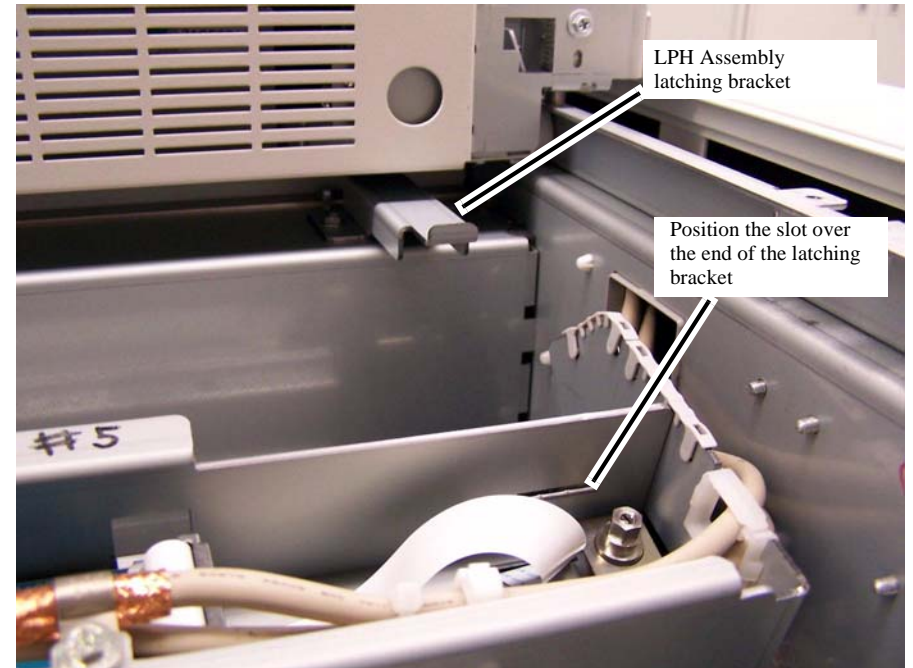
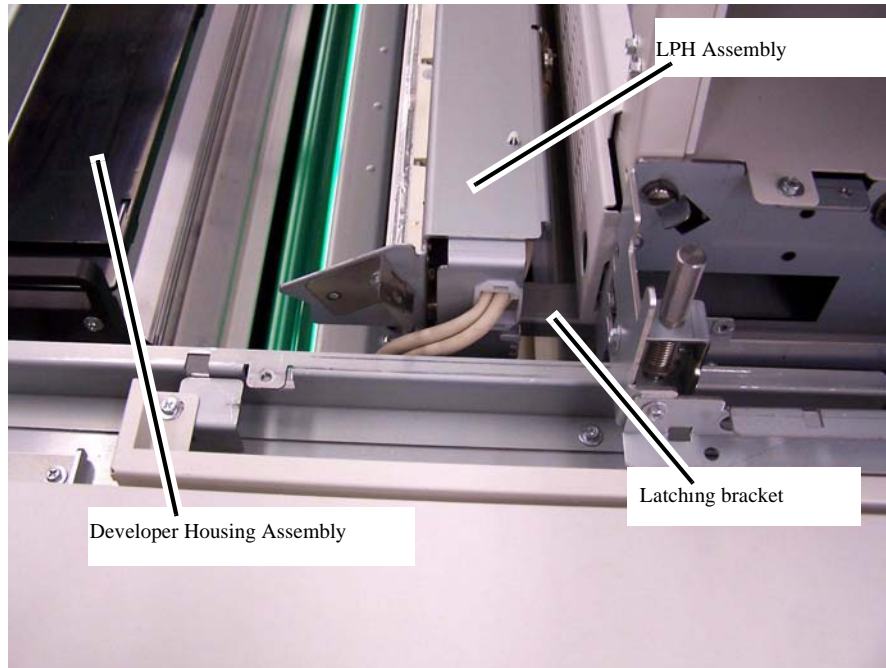

Figure 3 LPH Assembly bracket
Figure 4 LPH Assembly in latched position (viewed from right side of IOT)
- c. Latch the right side of the LPH Assembly to the bracket to keep it in the upright position (Figure 3 and Figure 4).